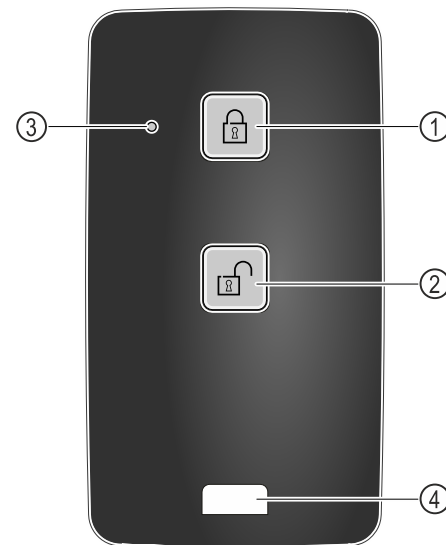

Fig. 245
- ▶ Press button Fig. 245 (1) on the remote control.
- ▶ Press button Fig. 245 (2) on the remote control.
- ▶ Status LED Fig. 245 (3) provides a visual acknowledgement when you press the button.
- ▶ Eyelet Fig. 245 (4) for attaching remote control, for example, to a key ring.